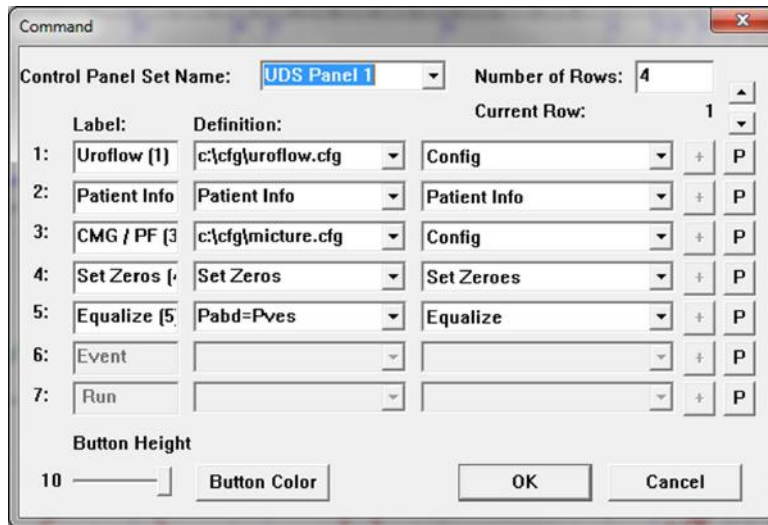

Figure 140: Command Window
1. Click **Options** from the menu bar and select **Control Panel Settings**. The **Command** window will appear displaying the first row of Control Panel buttons (Figure 140).
2. Click the **P** button next to the control panel button (Figure 140).